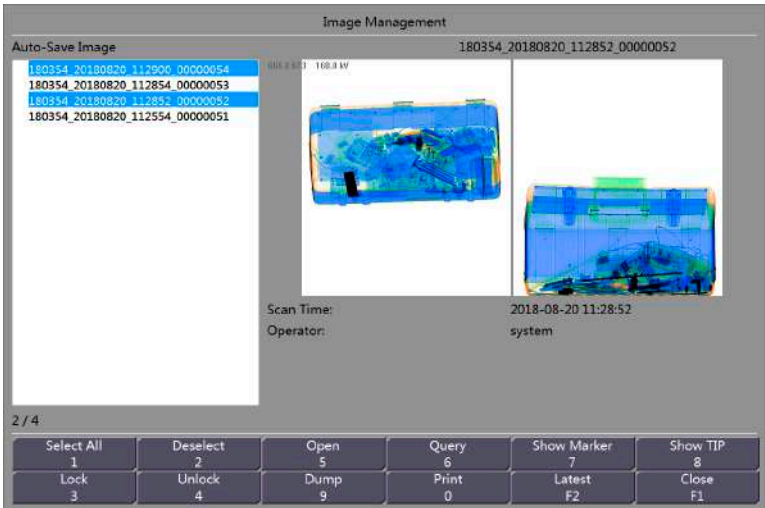

Figure 14-1 Image Management Interface
Step 1 Choose Image Management from the main menu in Figure 14-1 to display the Image Management interface, as shown in the following figure.
Step 1 Click on the main menu in Figure 14-1 and choose Log management to display the Log management menu, as shown in Figure 15-1.